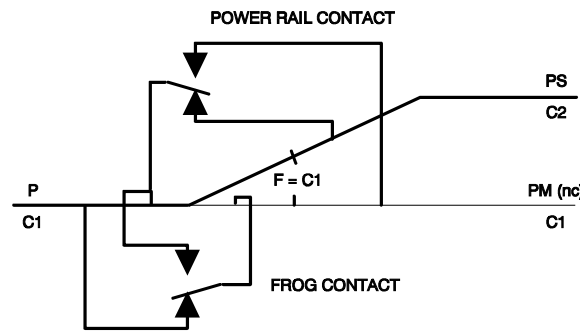

Figure 5-5 Power Rail Routine to Siding
In Figure 5-5, the switch is aligned for the siding. Note that the contacts move with the points, and the frog (F) is now connected to the rail. The siding power rail (PS) is connected to the power rail for the main (P), and the main line power rail (PM) beyond the switch is not connected (nc). A train will now run on the siding, but remain stopped on the main.